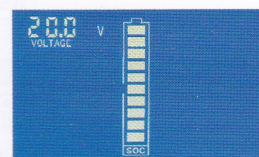
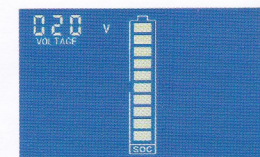

Figure 3: full voltage setting interface (low bit)
Figure 4: full voltage setting interface (high bit)
Step 2: SET character blink present it is the setting status of full / cut-off voltage, long press the button until the LCD screen displays the interface like fig. 3, then release the button.
Step 3: At this time, the battery symbol display full grids energy means the full voltage setting status, factory default the full voltage is 0.20V, the numerical code circulation flashing from the low bit to the high bit show that the current setting digit, short press to set the digit, please pay attention that, as the full voltage setting value has 4 digit, but the numerical code has only 3 digit, so the setting is divided into two parts: low bit (fig. 3) + high bit (fig. 4). For example, the default full voltage is 0.20V, then the display state is 20.0V to 0.20V low and high cyclic switching display. If you need to set the full voltage is 199.0V, then please set the low bit to 99.0V, when the cycle reaches the high bit, it will display 099V, and only the highest zero bit flicker to prompt it can be set. Setting the high bit to 199V represents the full voltage is 199.0V.